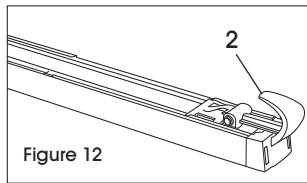

Figure 12
1. Pull pusher (2) fully out and fix it in rear position. (See Figure 12)